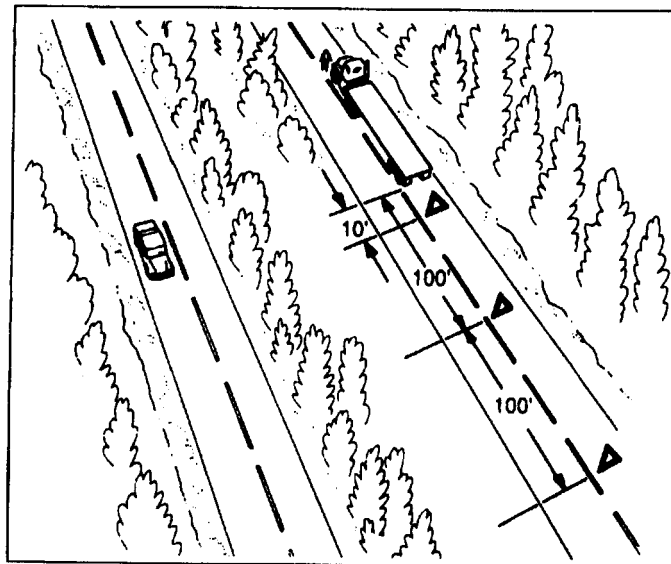

Figure 2-3. Warning device placement: one-way or divided highway
- 10, 100, and 200 feet toward the approaching traffic if you must stop on or by a one-way or divided highway (Figure 2-3, page 2-8).